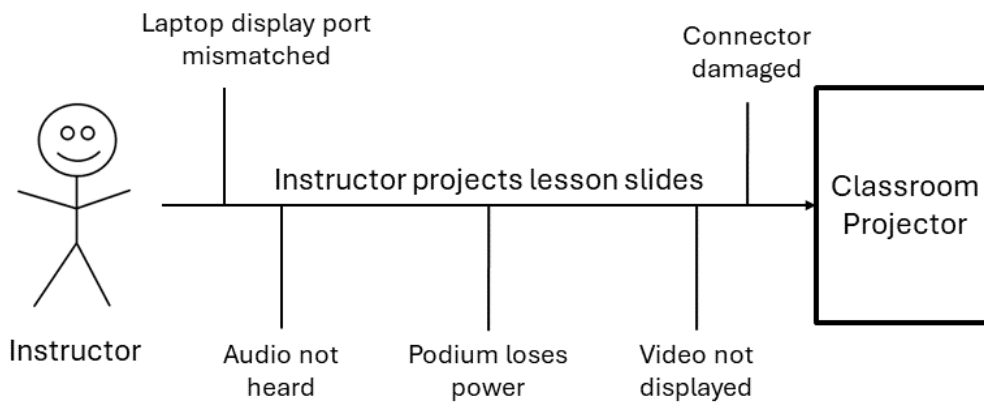

Figure 1: Classroom projector diagram (for Questions 8-9)
8. Figure 1 is an example of a:
9. In Figure 1 “Podium loses power” is a(n):